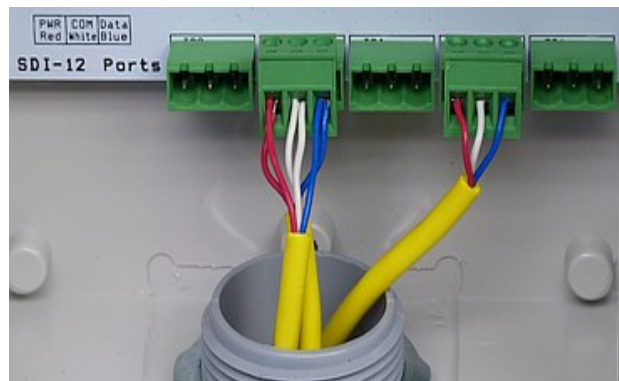

Figure 5 – Five SDI-12 Ports
- One to two sensors can easily be wired directly into the green terminal block as shown in **Figure 5** above. To do this, insert all red wires into the topmost portion of the terminal block and tighten the screw to secure them in place. Repeat the procedure for the white wires in the middle portion of the block and the blue wires in the bottom portion of the block.
- When connecting up to 10 sensors to one Solar DataSnap, a wire splice may be necessary. This can be done by connecting all the red sensor wires to a separate, single wire and then connecting the single new wire to the terminal block in the appropriate position. Follow the same procedure to connect the white and blue wires. The wiring should look like **Figure 5**. When the block is connected to the Solar DataSnap, the location of the colored wires must match the colors on the DataSnap.